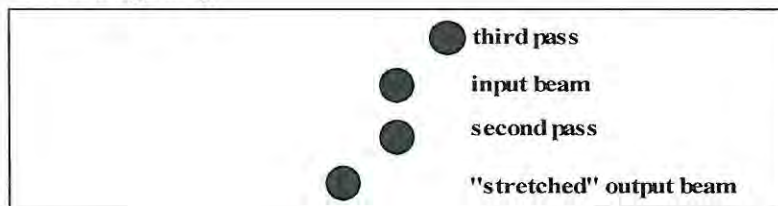

Fig. 3.10 The misalignment of the 1"  $\times$  7" reflection mirror.
10. If the upper and lower spots appear to be off horizontally with respect to the two inner spots (see Fig. 3.10), adjust the horizontal axis of the upper mirror mount of the vertical retro assembly so that the upper and lower spots line up.